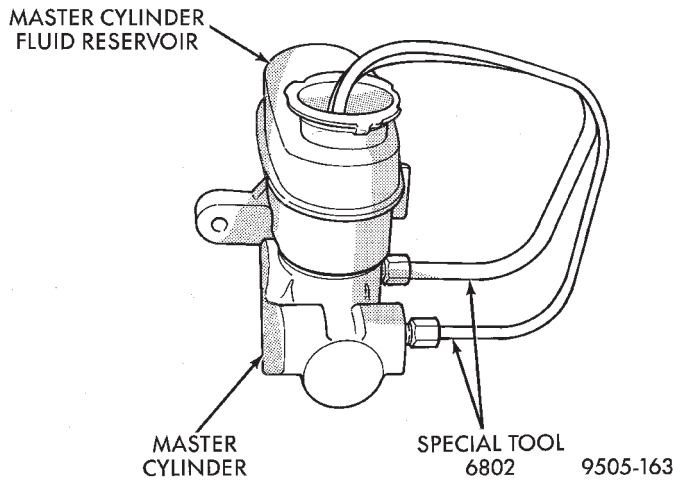
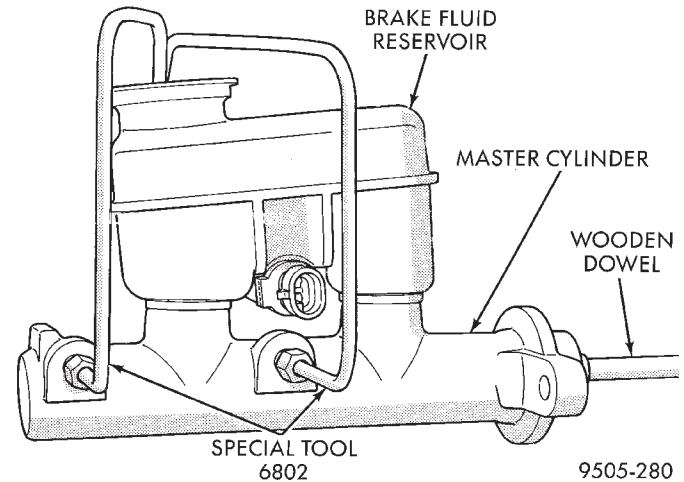
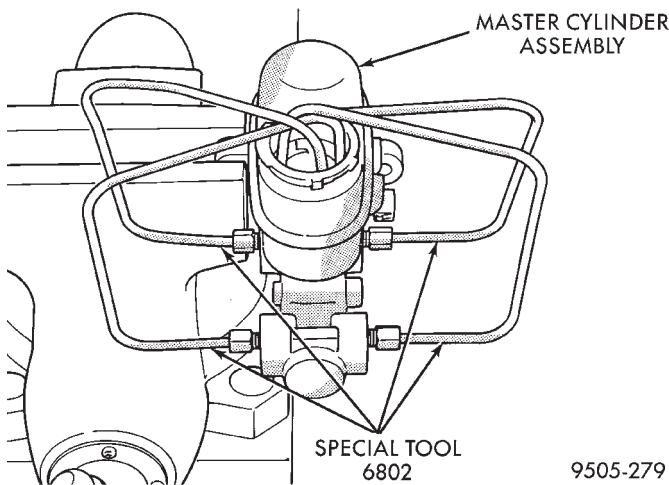

Fig. 32 Bleeding Tubes Attached To Master Cylinder With ABS
Fig. 34 Bleeding Master Cylinder
Fig. 33 Bleeding Tubes Attached to Master Cylinder With Out ABS
(1) Clamp the master cylinder in a vise. Attach Bleeding Tubes, Special Tool 6802 to the master cylinder outlet ports (Fig. 32) or (Fig. 33). Position bleeding tubes so the outlets of the bleeding tubes will be below the surface of the brake fluid when reservoir is filled to proper level.
(2) Fill brake fluid reservoir with brake fluid conforming to DOT 3 specifications such as Mopar or an Equivalent.
(3) Using a wooden dowel per (Fig. 34). Depress push rod slowly, and then allow pistons to return to